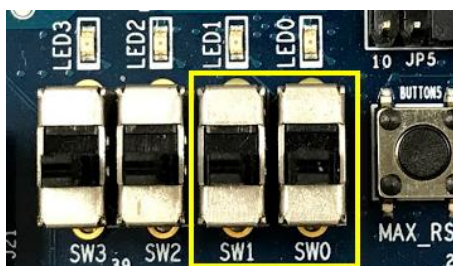

Figure 4-4 SWITCH[1:0] on TR5
8. Set SW[1:0] to 00 as shown in **Figure 4-4**.